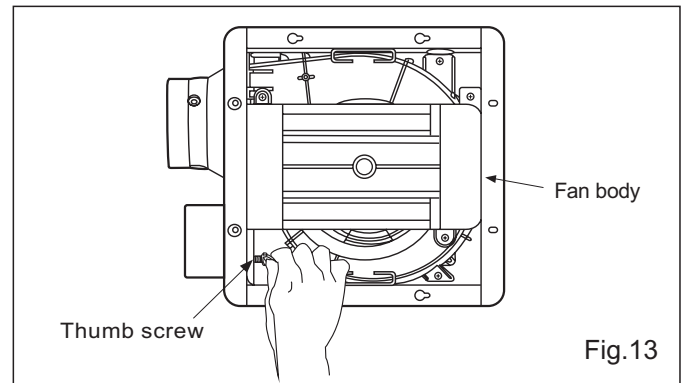

Fig.13
1. Before installation, secure the fan body to adaptor by using thumb screw (Fig.13). Secure the lighting unit to fan body (referring to Fig.6 of page 8).
1. Before installation, secure the fan body to adaptor by using thumb screw (Fig.13 of page 10). Secure the lighting unit to fan body (referring to Fig.6 of page 8).